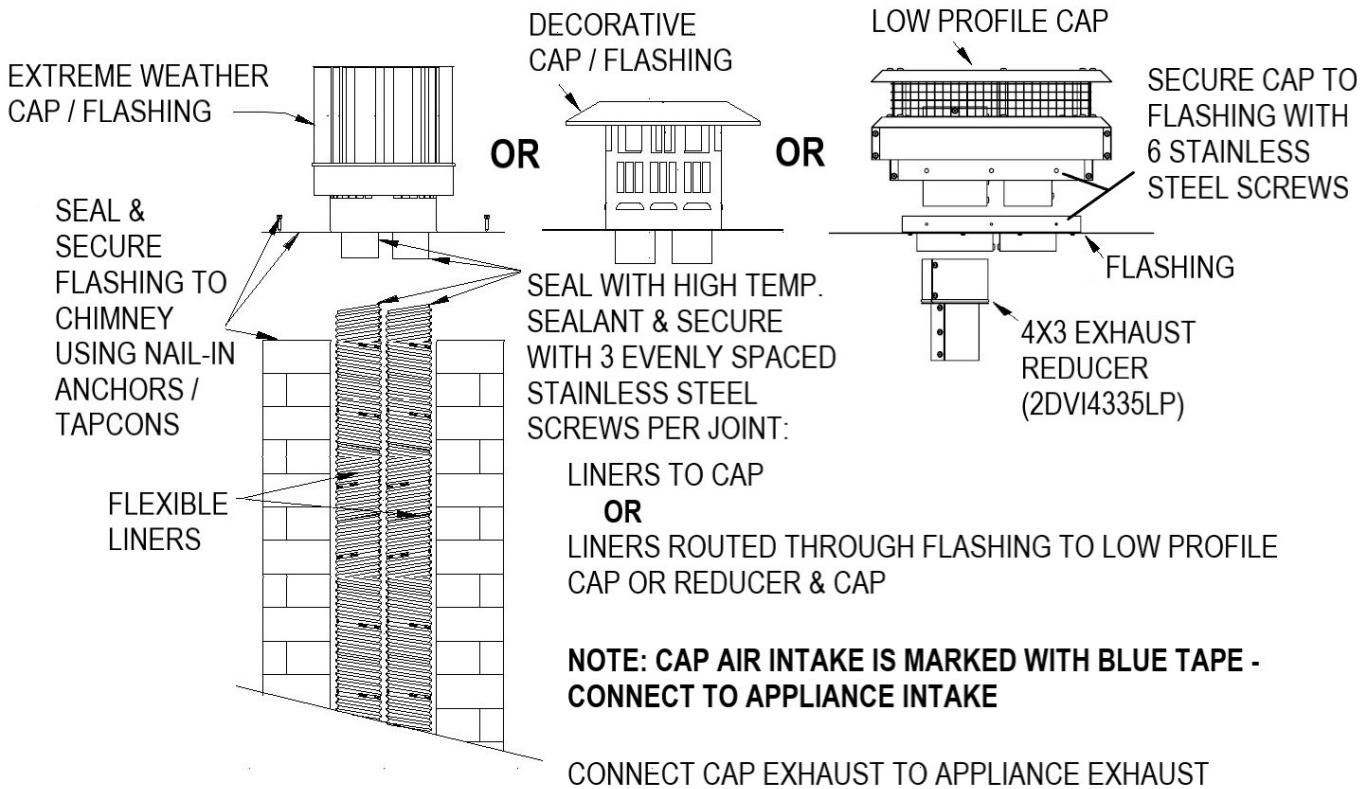

Fig. 3 Installation Top of Chimney
- For models **DVI-D & DVI-X** attach liners directly to appliance using high temperature sealant (field supplied) and secure each liner with three (3) evenly spaced self-drilling screws included in kit. Ensure liners are connected properly to appliance i.e. "EXHAUST" liner to "EXHAUST" appliance collar.
- Using a hacksaw, snips or cutting wheel trim the liners to the required height. Attach liners directly to Cap/Flashing using high temperature sealant (field supplied) and secure with three (3) evenly spaced self-drilling screws per liner included in kit. (See figure 3)
- Place the Cap/Flashing over the liners and secure to chimney using nail-in anchors. Caulk all joints with a quality silicone sealant and paint if required (both field supplied). (See figure 3)